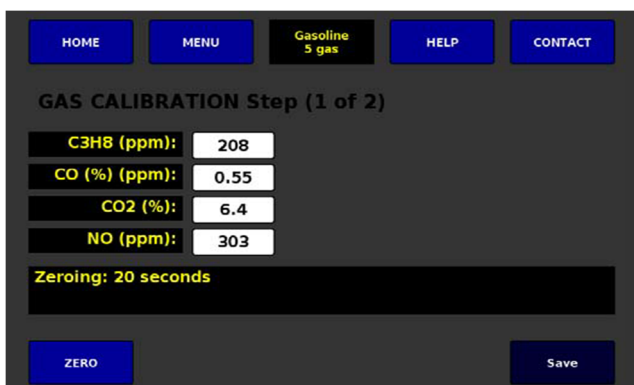
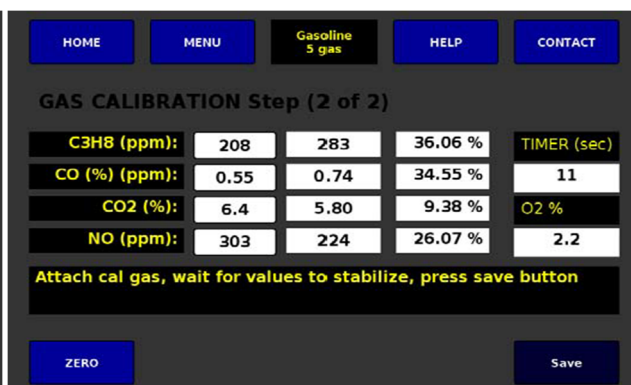

FIGURE 19
FIGURE 20
- The status line will display “Zeroing” (Figure 19) once the calibration gas values have been sent to the bench, the analyzer will Zero for 30 seconds, then the calibration screen 2 will appear (Figure 20). Once screen 2 appears, calibration gas can be connected and turned on as indicated on the status line. **(Note: Do not adjust the regulator, this has been preset to the appropriate flow rate. DO NOT press the save button without calibration gas attached and flowing to the analyzer.)**